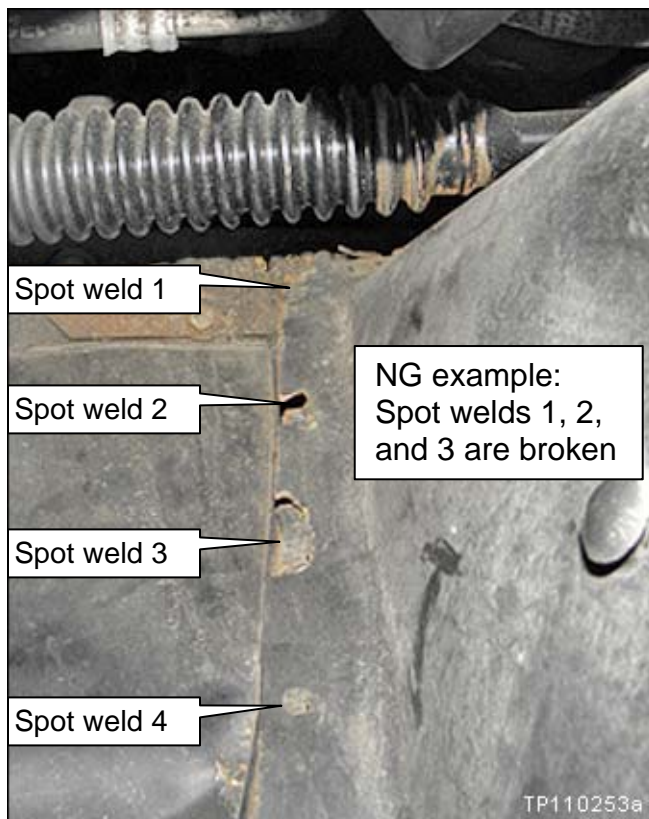

Figure 9
5. Check the spot welds on the front of the driver side strut housing panel (see Figures 9 and 10).